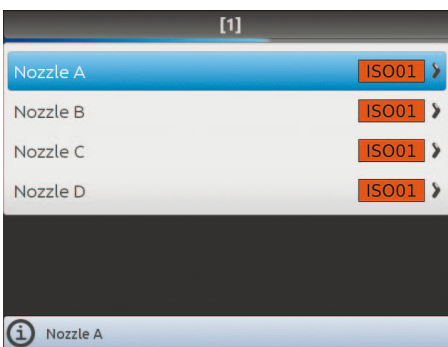

Fig. 68
- Select the nozzle you wish to set up (A, B, C or D, in Fig. 68).